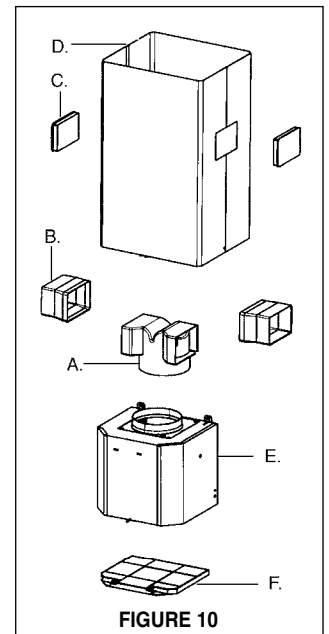

FIGURE 10
Ductless installations require a **Ductless Conversion Kit** whose components are pictured in FIGURE 10. Do not use the DAMPER (N in FIGURE 1) for ductless installations. The LOWER CHIMNEY COVER (B in FIGURE 1) should be discarded and replaced by the new one with holes from the **Ductless Conversion Kit** (D in FIGURE 10).
As indicated in FIGURE 10, place the DUCTLESS DIVERTER (A) over the exhaust opening of the EASY CUBE (E). Fit the DUCTLESS DIVERTER EXTENSIONS HORIZONTAL (B) into the DIVERTER (A).
For ductless installations, line up the DUCTLESS DIVERTER EXTENSIONS HORIZONTAL (B in FIGURE 10) with the holes in the LOWER CHIMNEY COVER (D in FIGURE 10) and snap in the VENT GRIDS (C in FIGURE 10).
For ductless installations, install the CHARCOAL FILTER (F in FIGURE 10) behind the center grease filter opening by inserting and locking into place. See FIGURE 14